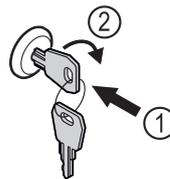

Fig. 173 Example illustration
- ▶ Insert key Fig. 173 (1).
- ▶ Turn key clockwise by 90° Fig. 173 (2).